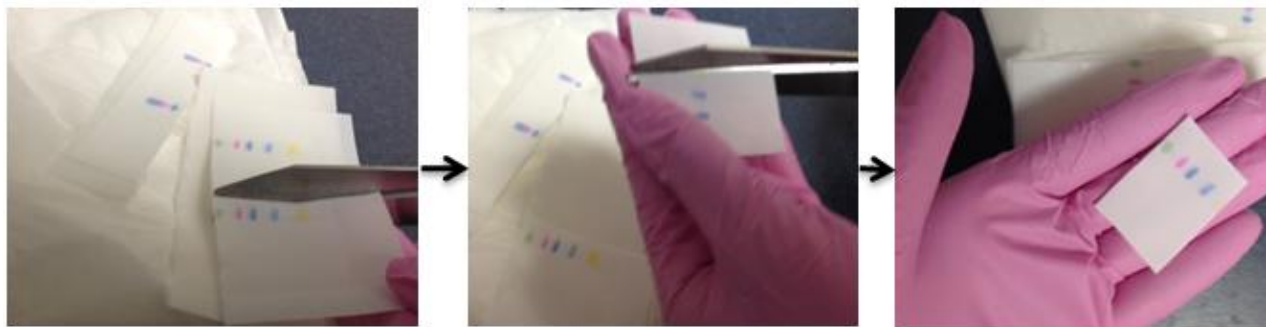

Figure 16
6.7. Trim the membrane along the sides and bottom. See Figure 16.